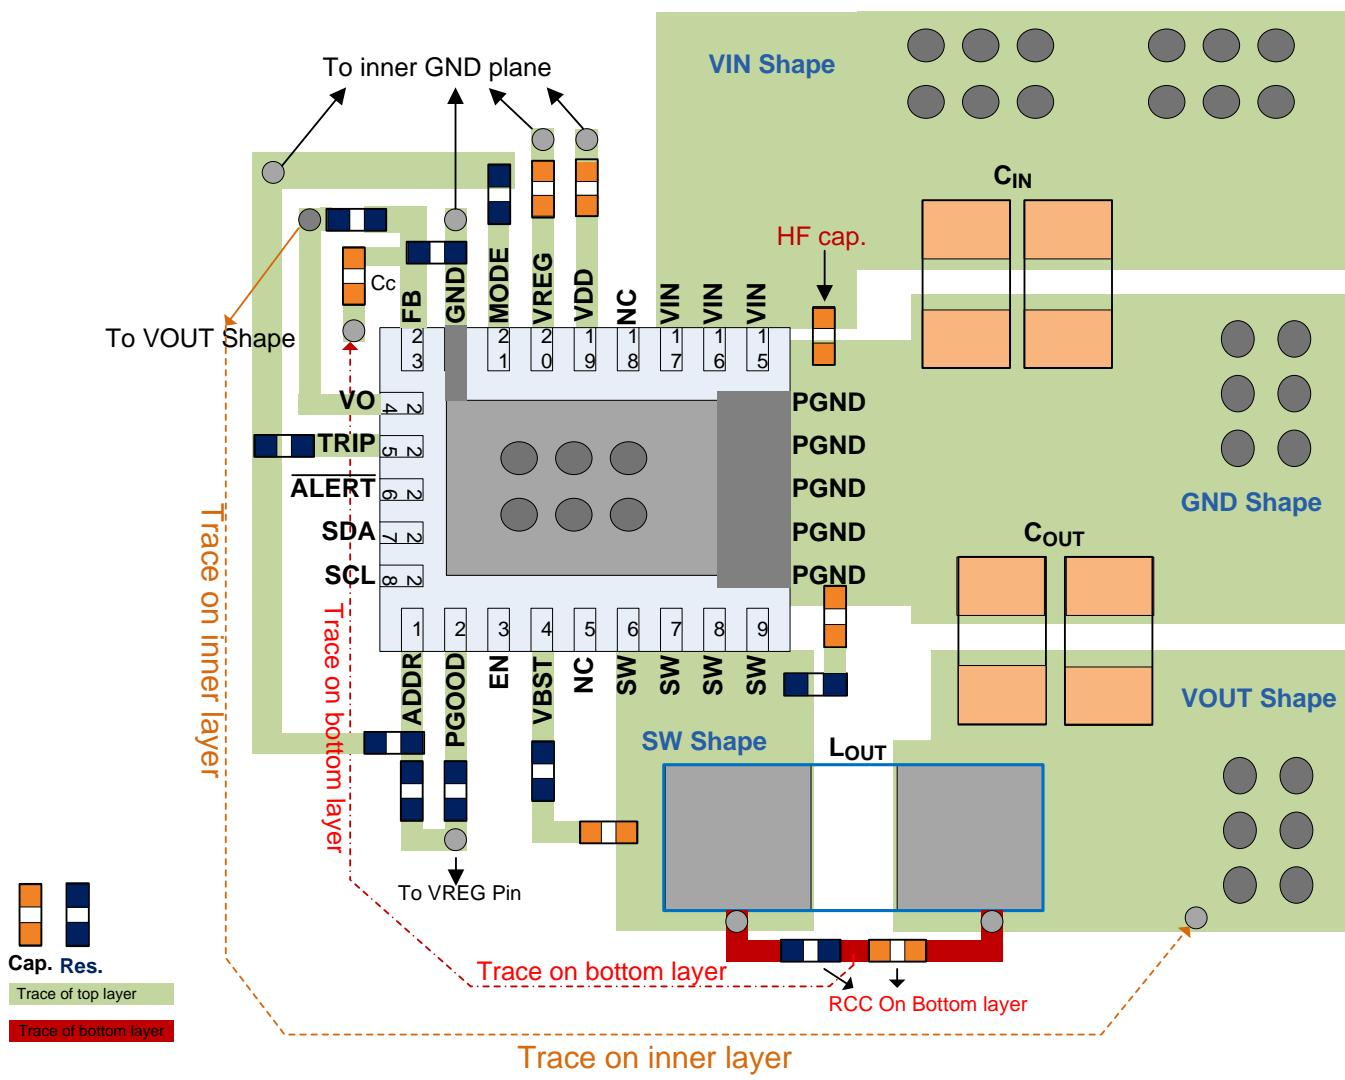

图 65. Layout Recommendation
- See 图 65 for the layout recommendation.